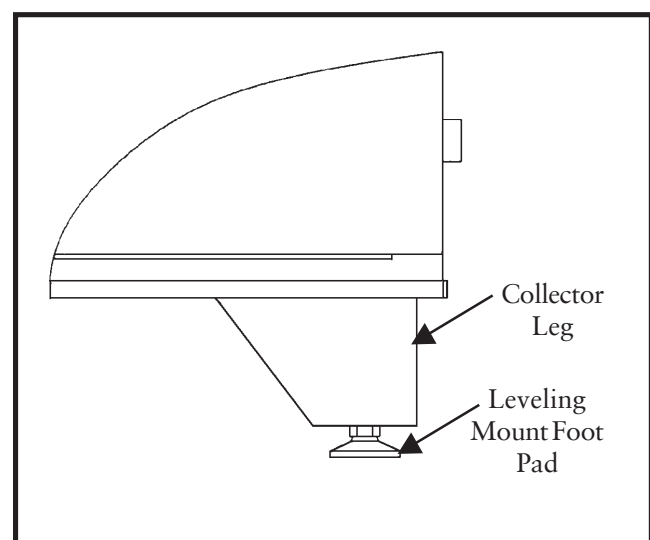

Figure 4
2.5.2 Leg Levelers (See Figure 4 Leg Levelers)
The leveling mount foot pads screw into the bottom of the collector legs as illustrated in Figure 4 Leg Levelers.